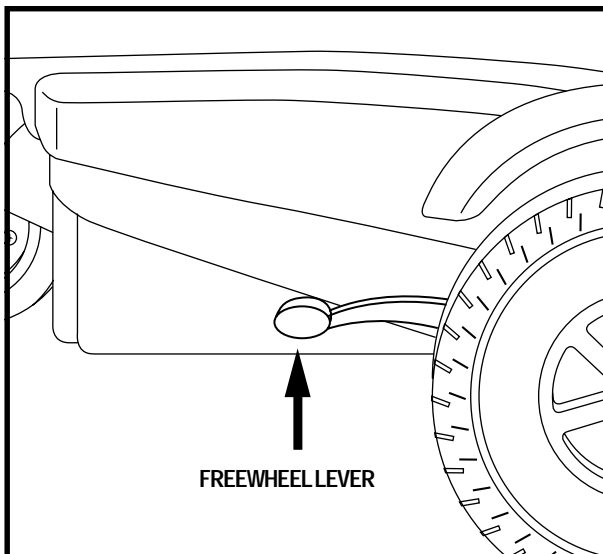

Figure 9. Drive Mode (Drive Engaged)
2. Pull both levers upward to engage the drive motors (drive mode). See figure 9.
2. Make sure that the power chair is in drive mode. See figure 9.